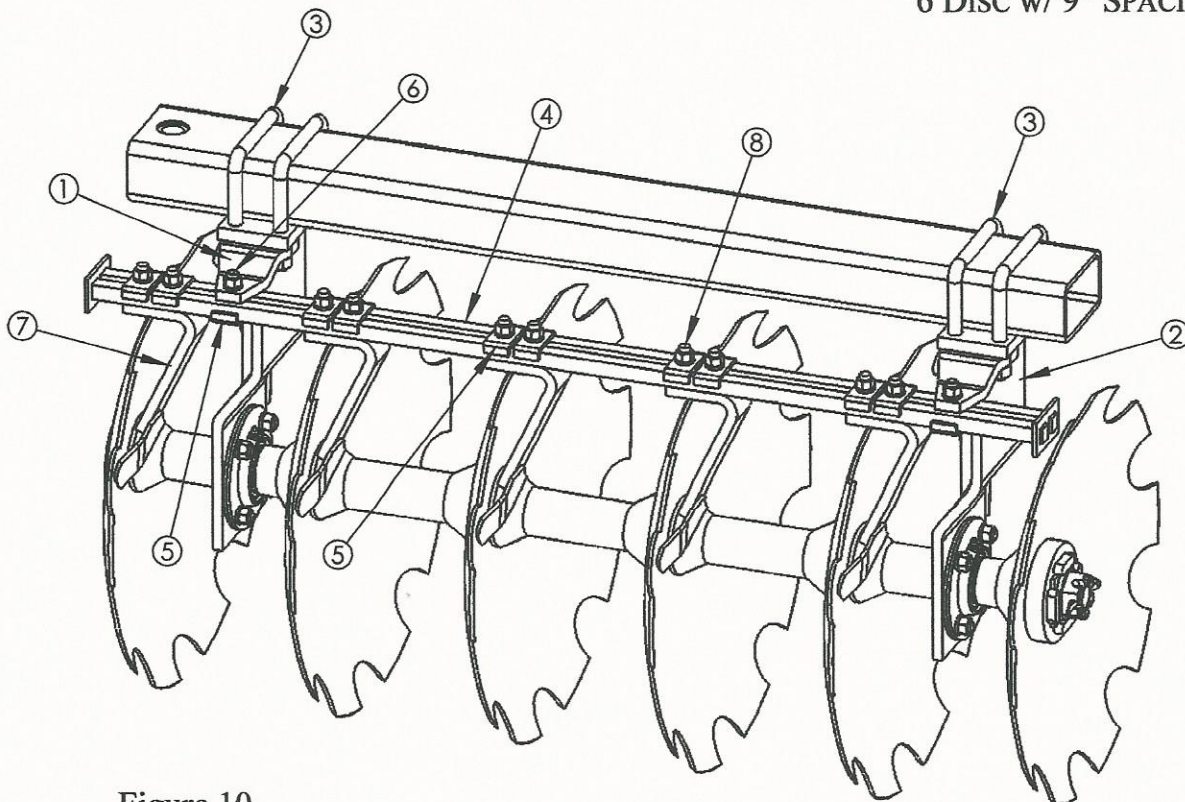

Figure 10
L) To Attach Scrapers (Refer to Figure 10)
- 1) Attach Scraper Bar Hangers (1) to the rear side of the Bearing Hanger (2) and under the bearing Hanger top plate as shown. **NOTE: Long leg of U-Bolt (3) must be to the rear.** Replace $\frac{1}{2}$ " Lockwasher and $\frac{1}{2}$ " Hex Nut on Bearing Hanger U-Bolts and tighten securely. Next, attach Scraper Bar (4) loosely below the Scraper Bar Hanger by placing a Scraper Clamp (5) underneath the Scraper Bar and inserting a $\frac{1}{2} \times 2 \frac{1}{4}$ " Hex Bolt (6) up through the Scraper Bar and the Scraper Bar Hanger. Secure loosely with a $\frac{1}{2}$ " Lockwasher and $\frac{1}{2}$ " Hex Nut. Mount Scraper (7) just inside the end of the Scraper Bar (on butt end of disc gang) with two $\frac{1}{2} \times 2 \frac{1}{4}$ " Carriage Bolts (8) and secure these with two Scraper Clamps (5), $\frac{1}{2}$ " Lockwashers and $\frac{1}{2}$ " Hex Nuts. Adjust each Scraper close to but not touching the disc blades and tighten securely. Making sure the end of the Scraper Bar is close to the first Scraper tighten both Hex Bolts to secure the Scraper Bar. Install, adjust and tighten remaining Scrapers and hardware. **NOTE: Do Not Scrape Outside Front or Inside Rear Discs.**